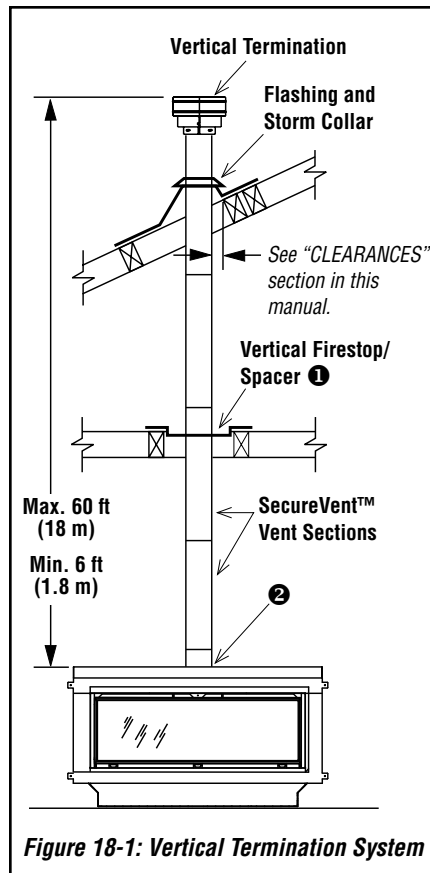

Figure 18-1: Vertical Termination System
- Typical vertical termination systems are shown in **Figures 18-1, 18-2, and 18-3**.